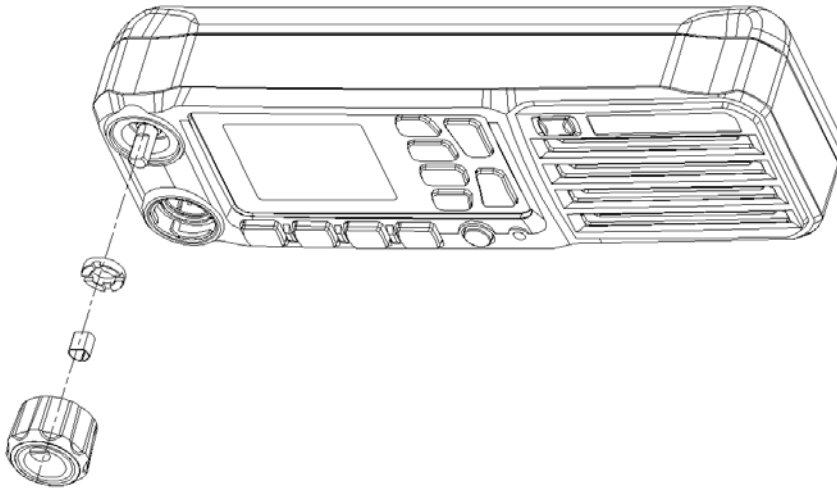

Figure 5.7
(1) Remove volume knob and snap spring, unscrew M6x0.35 as per figure 5.7.